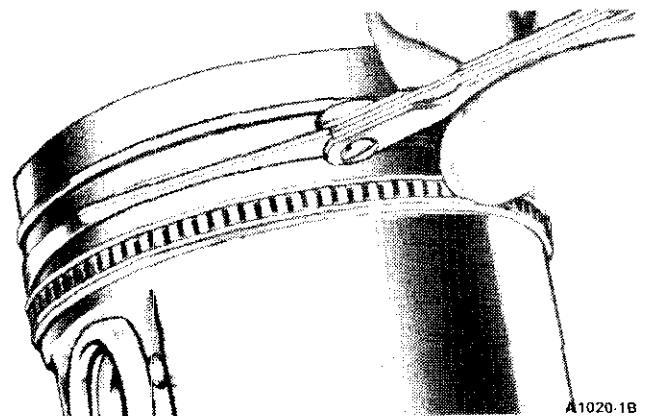

FIG. 36 Checking Piston Ring Side Clearance
6. Check the ring side clearance of the compression rings with a feeler gauge inserted between the ring and its lower land (Fig. 36). The gauge should slide *freely around the entire ring circumference without binding*. Any wear that occurs will form a step at the inner portion of the lower land. **If the lower lands have high steps, the piston should be replaced.**